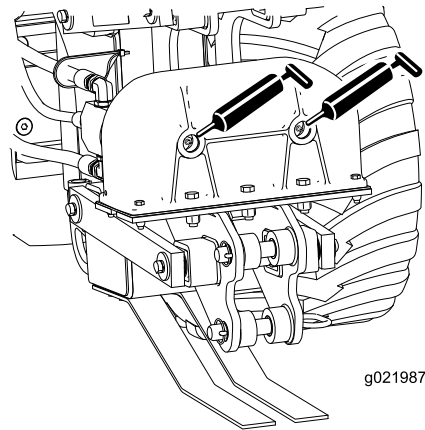

Figure 18
2. Connect a grease gun to each fitting (Figure 18, Figure 19, and Figure 20).